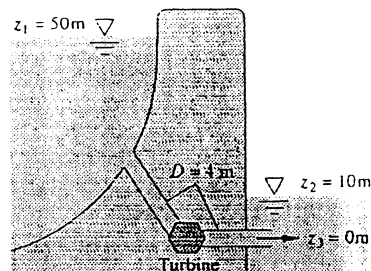

Fig. P3.145
**3.145** The large turbine in Fig. P3.145 diverts the river flow under a dam as shown. System friction losses are  $h_f = 3.5V^2/(2g)$ , where  $V$  is the average velocity in the supply pipe. For what river flow rate in  $\text{m}^3/\text{s}$  will the power extracted be 25 MW? Which of the *two* possible solutions has a better “conversion efficiency”?